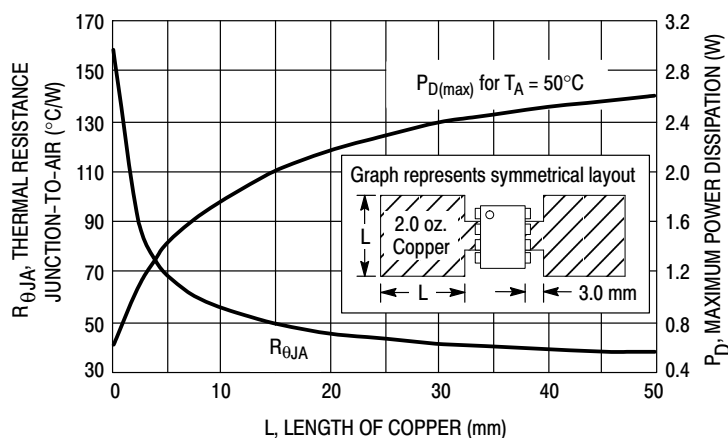

Figure 24. SOP-8 Thermal Resistance and Maximum Power Dissipation versus P.C.B. Copper Length
- SOIC–8 Junction–to–Ambient Thermal Resistance is for minimum recommended pad size. Refer to Figure 24 for Thermal Resistance variation versus pad size.